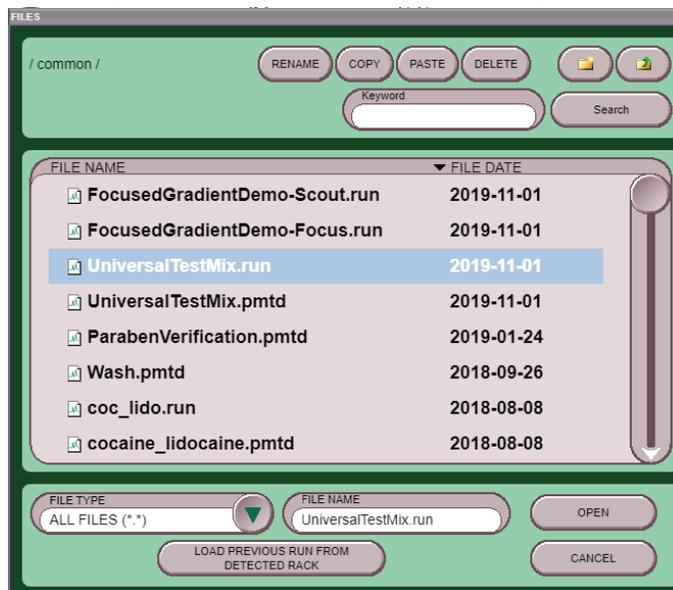

Figure 7: File open screen
1. Select FILE>OPEN, then select the .run file you want to repeat, then OPEN (Figure 7).